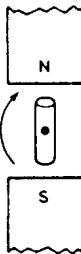

Figure 14.15
- 3 In Fig. 14.15, at the instant shown, the generated e.m.f. will be: